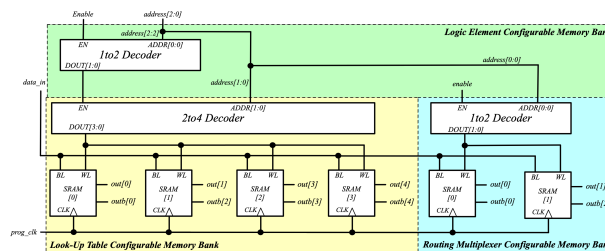

Fig. 7.4: Example of a frame-based memory organization inside a Logic Element
Through frame-based configuration protocol, each memory cell can be accessed with an unique address given to decoders. Fig. 7.4 illustrates an example about how the configurable memories are organized inside a Logic Element (LE) shown in Fig. 5.1. The decoder inside the LE will enable the decoders of the Look-Up Table (LUT) and the routing multiplexer, based on the given address at `address[2:2]`. When the decoder of sub block, e.g., the LUT, is enabled, each memory cells can be accessed through the `address[1:0]` and the data to write is provided at `data_in`.